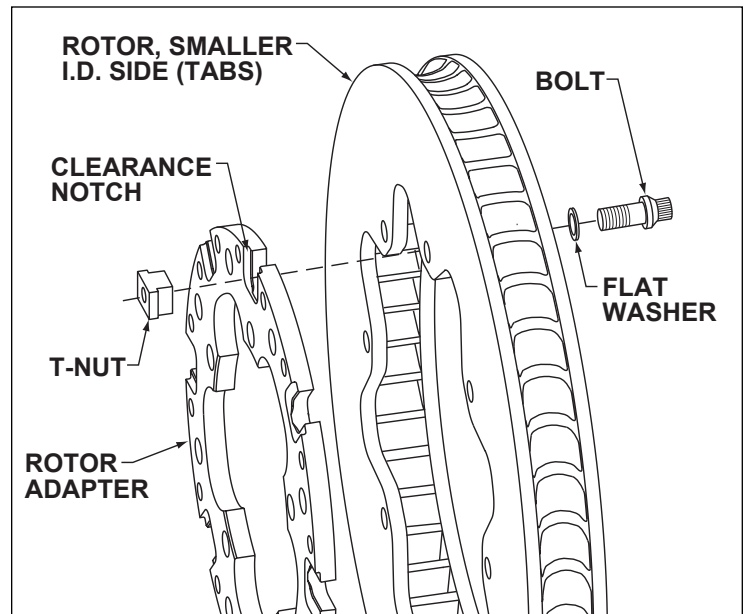

Figure 1. Rotor Adapter Assembly Installation Diagram
- Rotor (1)
- Adapter (1)
- T-Nuts (8)
- Bolts (8)
- Washers (8)
- Alignment Tool (1)
• Assemble rotor, adapter, T-Nuts, bolts and washers as shown in Figure 1. Be sure to leave bolts loose during this step of the assembly process.